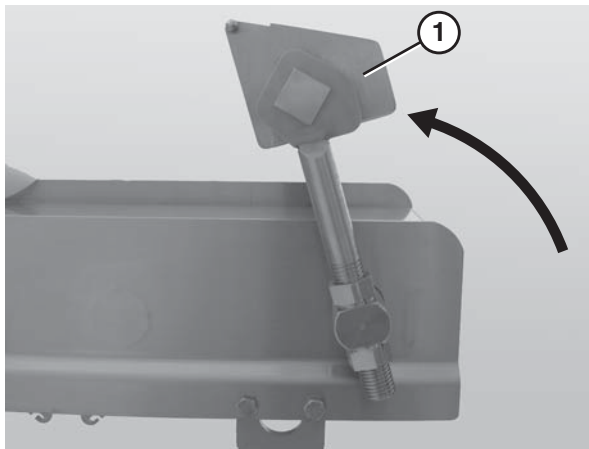

Figure 30
1. Place the idler tail (Figure 30, item 1) in the UP position.